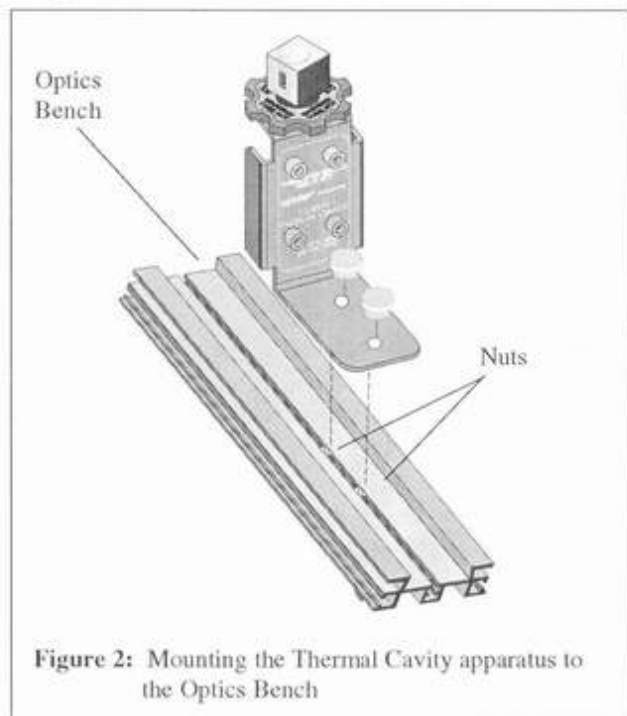

Figure 2: Mounting the Thermal Cavity apparatus to the Optics Bench
2. Align the holes on the chassis of the Thermal Cavity apparatus over the nuts. (See Figure 2).